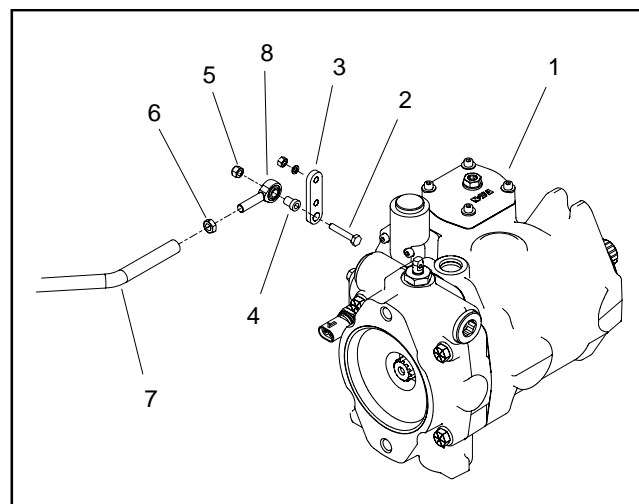

Figure 63
4. Remove traction rod from piston pump control arm by removing lock nut, spacer and cap screw (Fig. 63).
2. Apply Loctite #242 (or equivalent) to threads of cap screws (item 6). While maintaining pump alignment with spring coupler and flywheel plate, install two (2) cap screws and washers to secure piston pump to engine flywheel plate. Torque screws from **79 to 84 ft-lb (108 to 113 N-m)**.
4. Secure traction rod to control arm on piston pump by installing cap screw, spacer and lock nut (Fig. 63).
9. Disconnect engine run solenoid electrical connector to prevent engine from starting. Prime the hydraulic pumps by turning the ignition key switch to start and crank the engine for ten (10) seconds. Wait fifteen (15) seconds to allow the starter motor to cool and then repeat cranking procedure again.